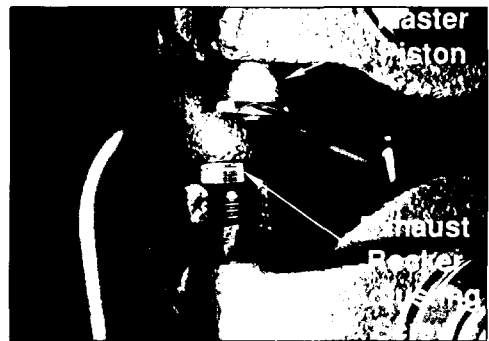

FIG. 33
3. The indicator extension will contact the trigger valve and push the master piston down slightly (see Fig. 33).